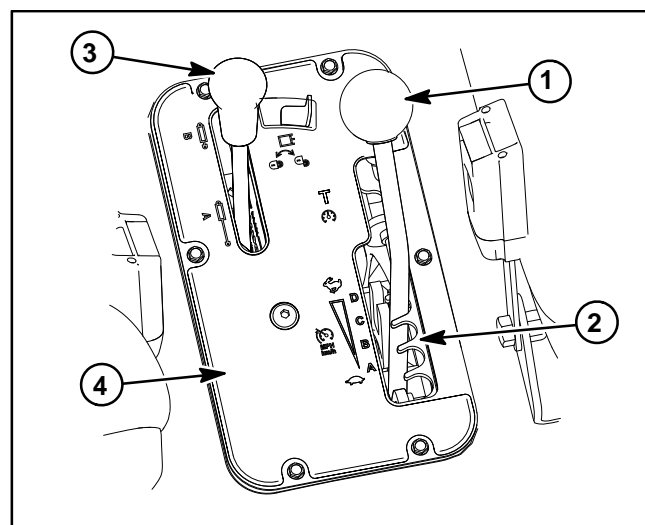

Figure 18
2. Move speed range lever to the transport (T) position to remove pressure in the speed control system.
3. Remove control plate from seat base to access speed control system components (Fig. 18):
- B. Remove six (6) washer head screws that secure control plate to seat base.